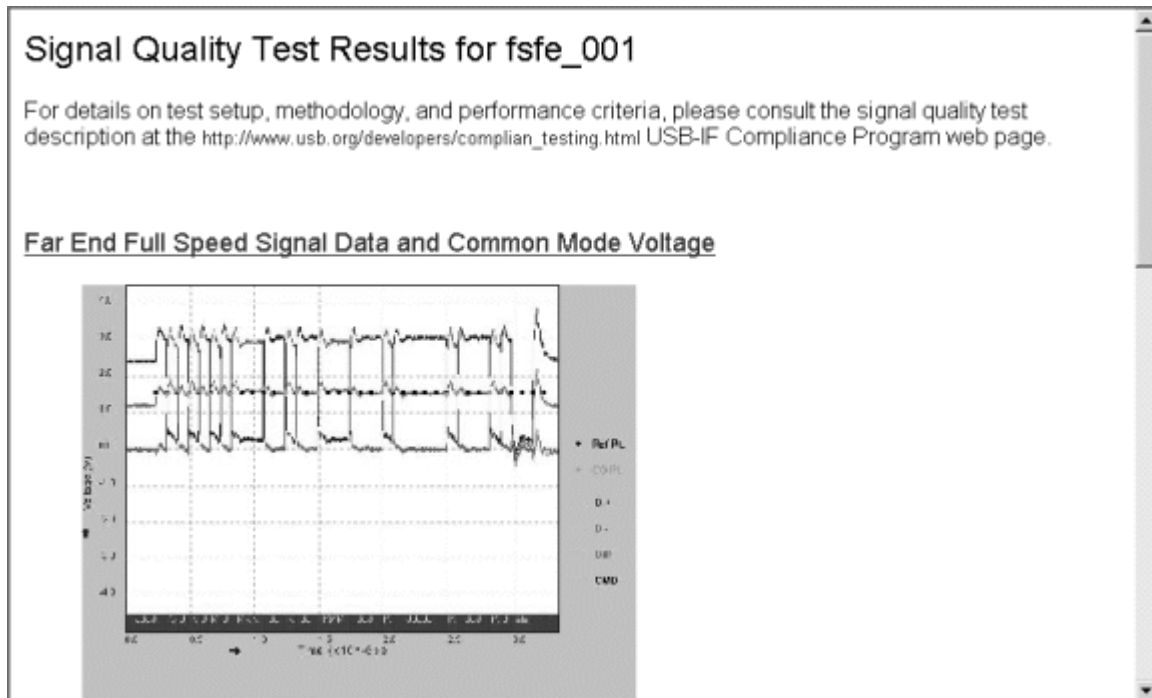

Figure 2-66: Report in Plug-Fest format
5. View the Tektronix Specific or Plug-Fest Specific report format as HTML pages or the CSV format in Microsoft Excel. Figure 2-66 shows the report in Plug-Fest format.